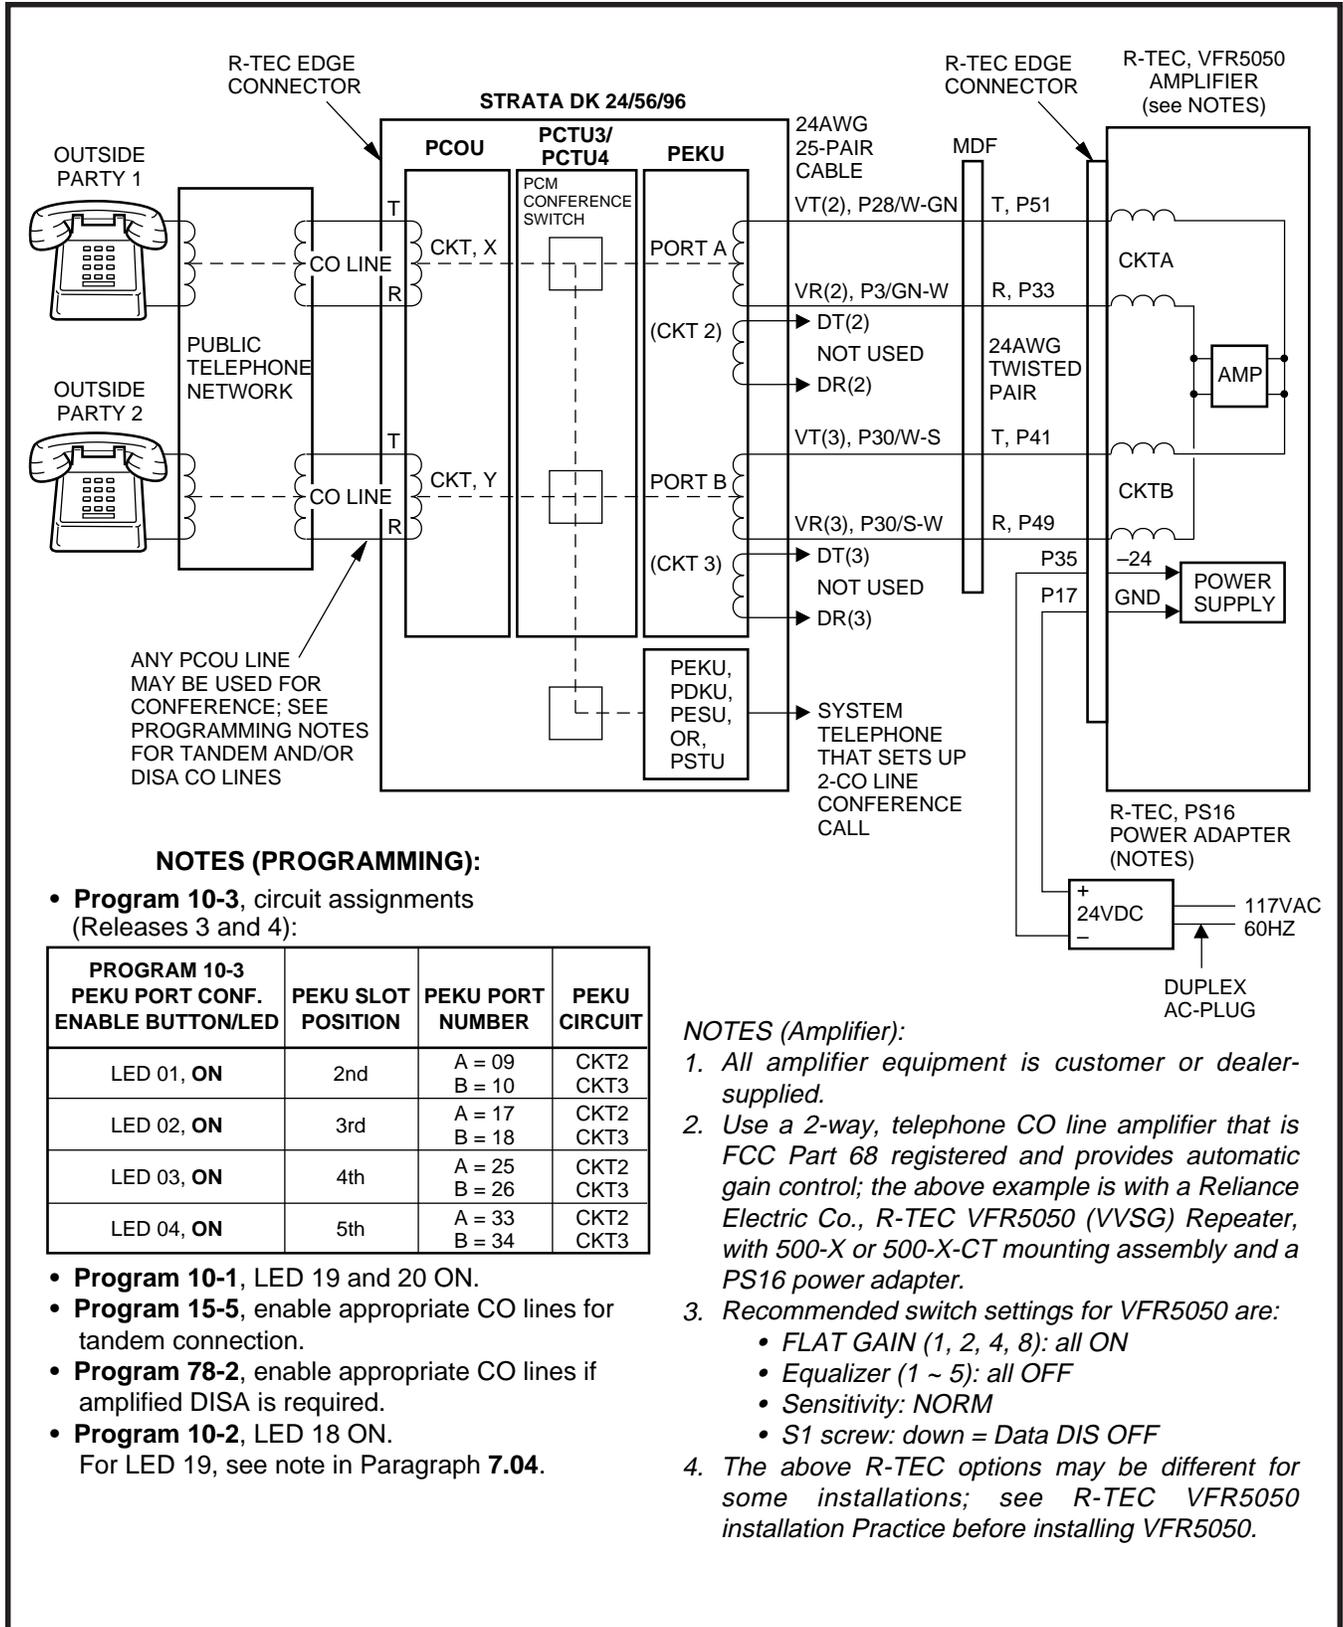

FIGURE 8-21
7.02 Amplified Talk Path. Figure 8-21 provides a functional diagram of a two-CO line amplified conference connection. (An R-TEC VFR5050 amplifier is used here.) The talk path for the connection is as follows: outside party 1—public telephone network—PCOU, CKTX—PCTU—PEKU, port A—into AMP, CKTA—Out AMP, CKTB—PEKU, port B—PCTU—PCOU, CKTY—public telephone network—outside party 2. This path is two-way so when outside party 2 talks, the talk level is amplified in the reverse direction.
7.04 Installation: Connect a two-way amplifier to the STRATA DK system in accordance with the following steps (see Figures 8-21 and the Amplified Two-CO Line Conference wiring Diagram in Chapter 9).
customer-supplied two-way amplifier. In the example in Figure 8-21, this is CKTA (Central Office Side A) of the VFR5050.
- 2) At the MDF, connect the voice pair (VT, VR, port B) of circuit 3 on the designated PEKU PCB to the other input of the amplifier. In the Figure 8-21 example, this is CKTB (subscriber side B) of VFR5050.